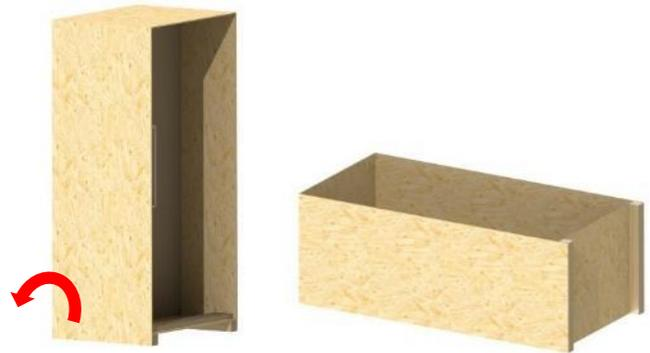

Figure 42
17) With the help of another person, lay the crate horizontally on its back. There should be one person on each side of the crate. (Figure 42)